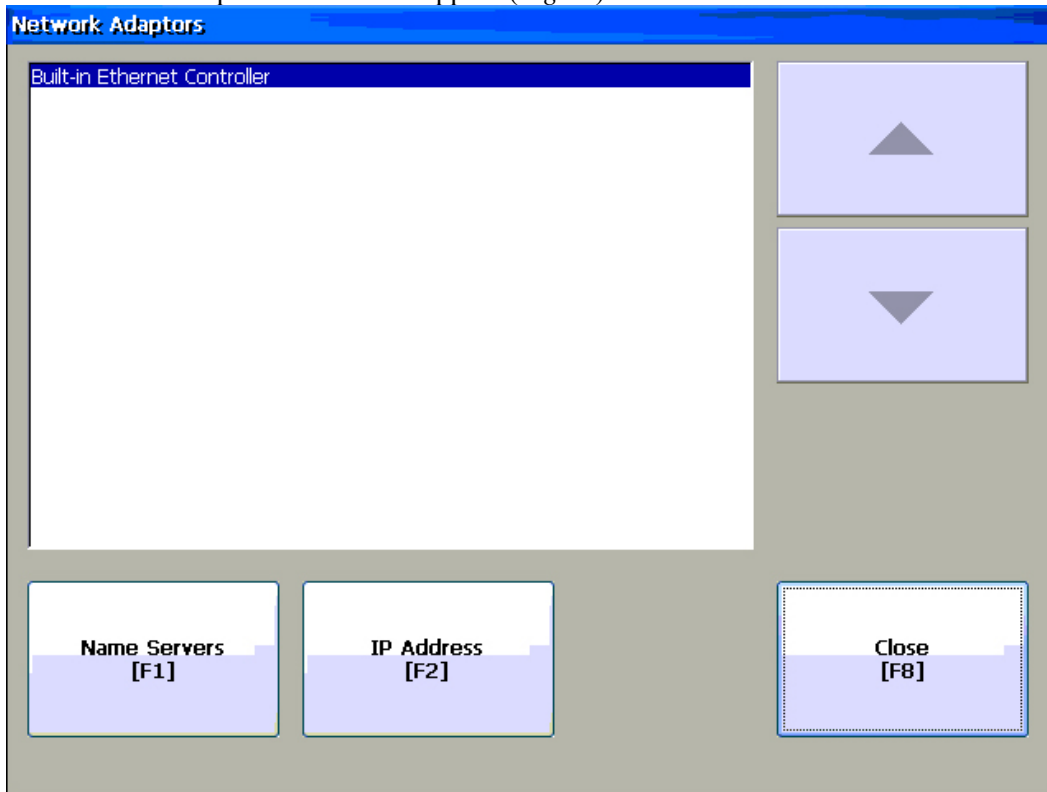

Fig 28
36. The Network Adaptors Screen will appear (Fig 28).
47. The Network Adaptors Screen will appear (*Fig 28*).